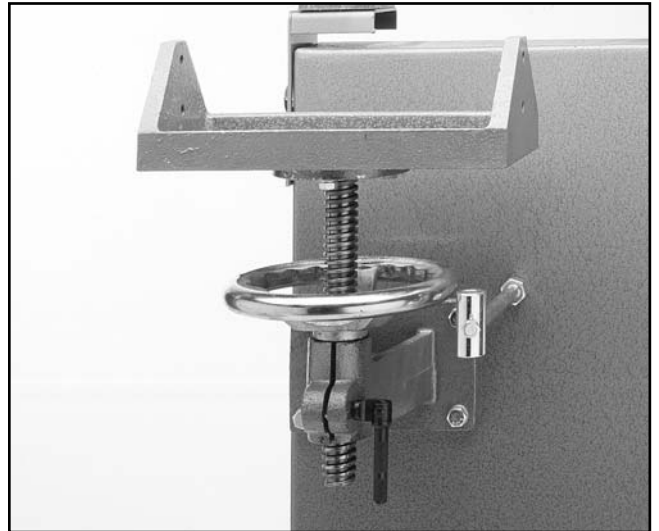

Figure 6. Installing the lead screw assembly.
3. Locate the lead screw/table bracket assembly and the handwheel. Thread the handwheel onto the lead screw about halfway and insert the lead screw into the lead screw bracket. **See Figure 6.**